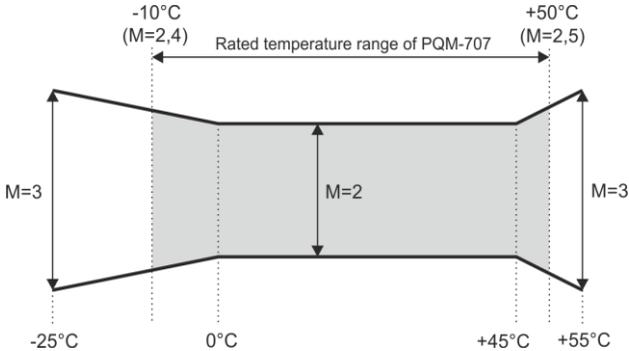

Fig. 68. Basic uncertainty multiplier M as a function of ambient temperature (does not apply to the reference conditions).
The basic uncertainty given in technical data applies to reference conditions only (Tab. 9). Outside of this range an additional multiplier has to be used, as shown in Fig. 68. The multiplier (M) is 2.0 in the ambient temperature range 0°C...+45°C. Over +45°C up to +55°C it rises in linear manner up to 3.0. Below 0°C down to -25°C it rises in linear manner to 3.0.